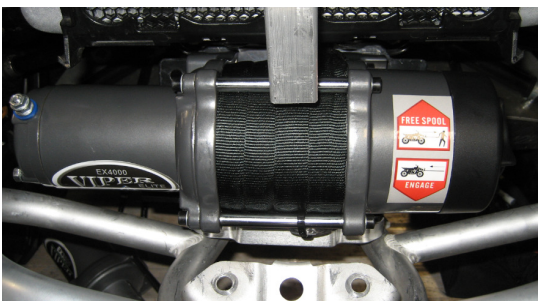

Figure 24
- Slide winch between bumper and ATV to rest atop the universal mount plate (Figure 24). Again, be mindful of the plastic clips on the radiator